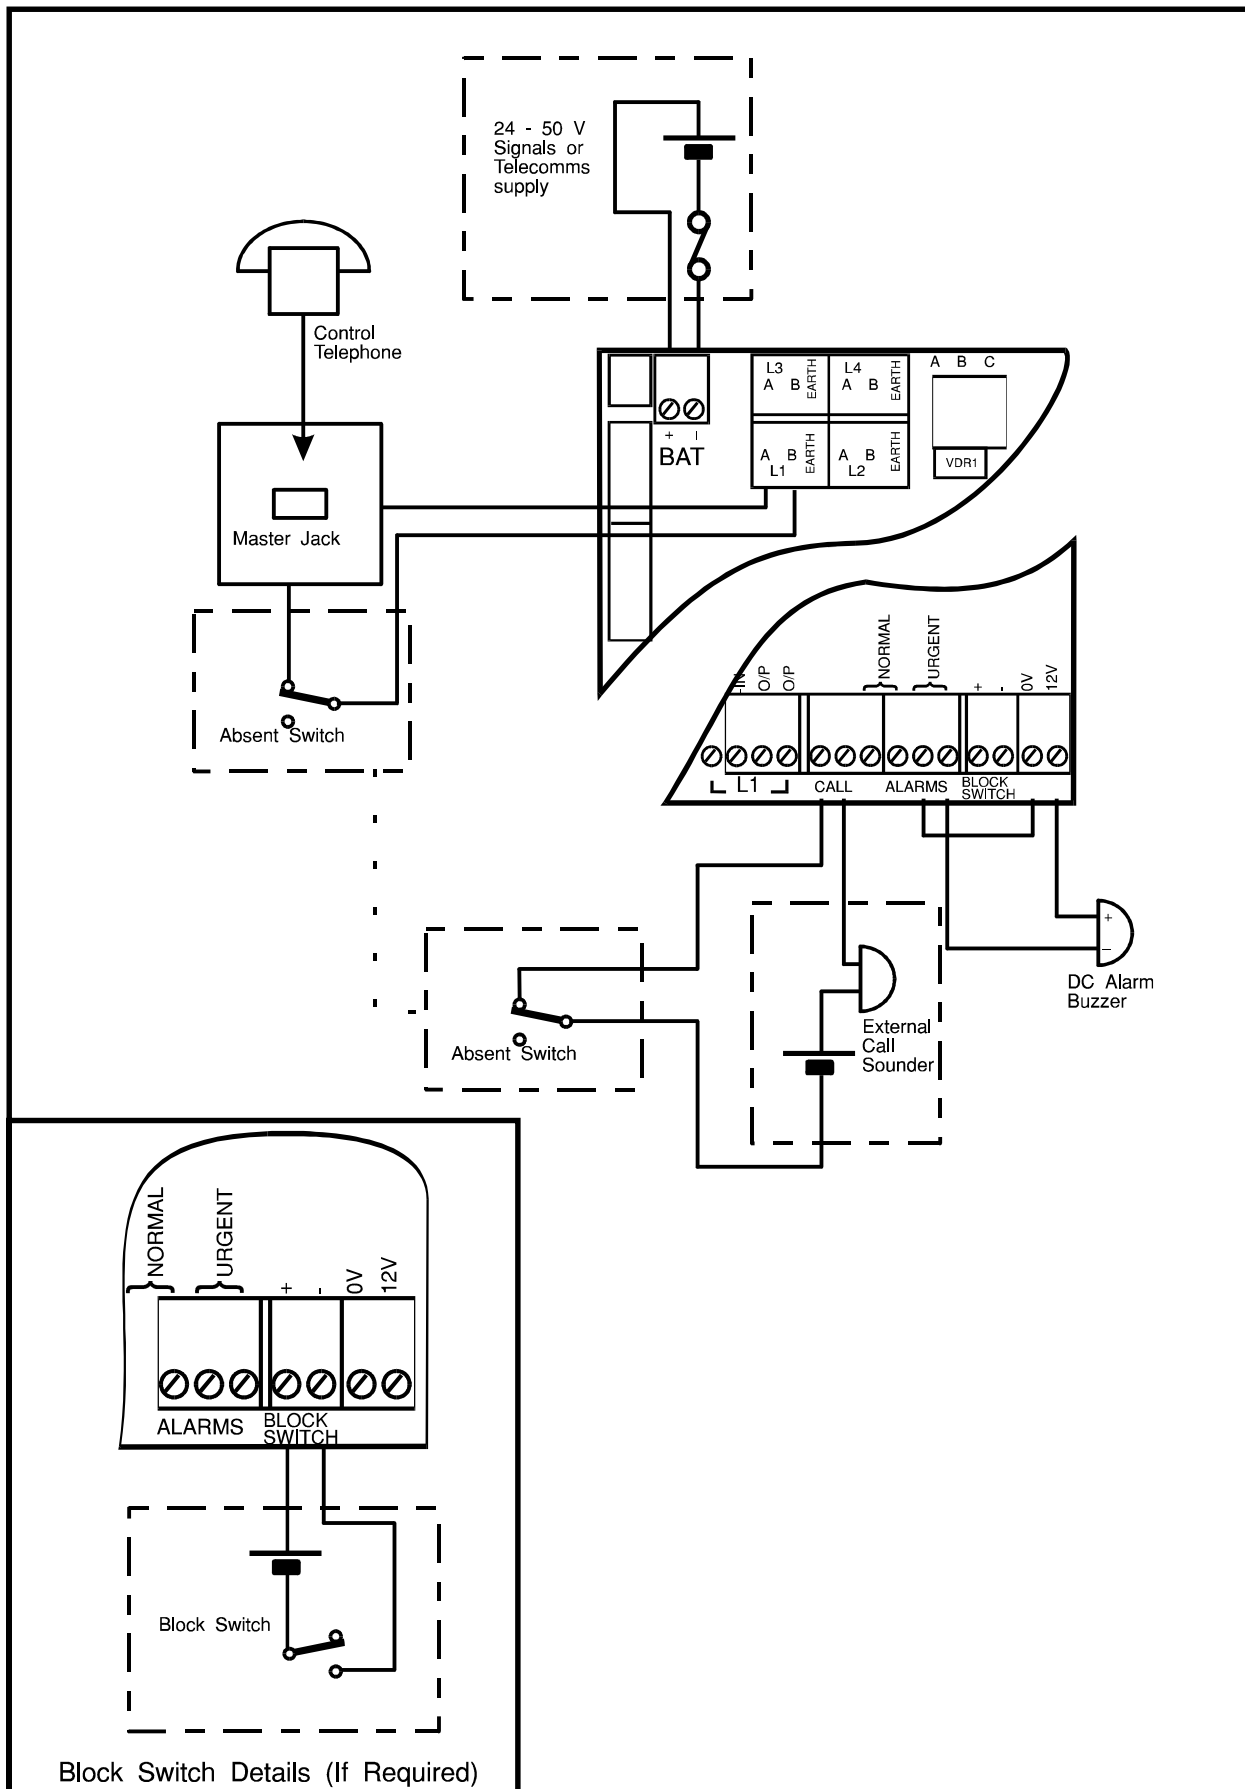

Fig 3.6 Signal Box Local Wiring Diagram
3.1.15 In order to assist with the system wiring, further details are provided in Figs 3.6 to 3.8.